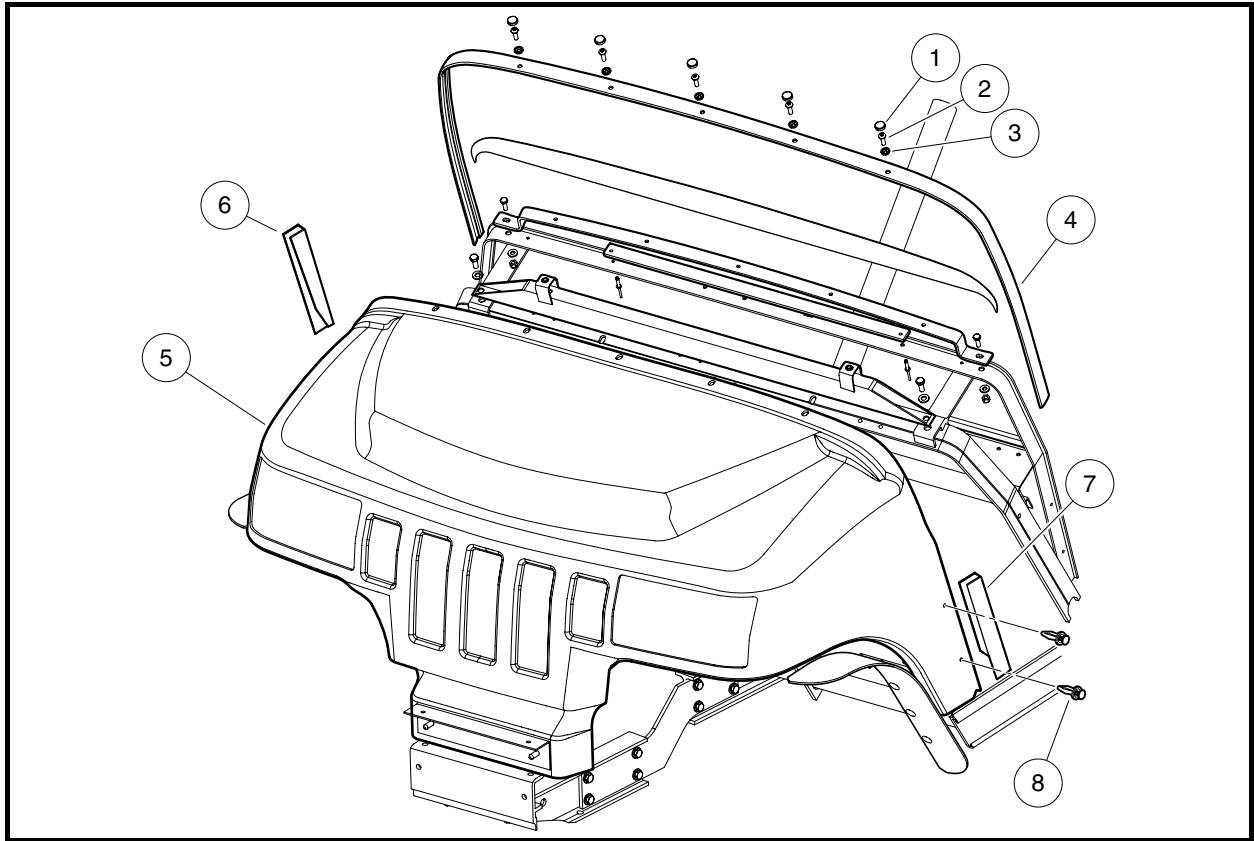

Figure 4-5 Front Body Assembly – 850
2. Remove caps (1) from screws (2) (**Figure 4-5, Page 4-8**).
3. Remove screws (2) and plastic scalloped washers (3) securing the dash trim strip (4) and front body (5).
4. Remove covers (6 and 7) and plastic rivets (8) from each side of front body.
1. Position front body (5) onto frame and connect wire harness to headlights.
2. Align front body (5) and dash trim strip (4) holes with holes in frame and install the five screws (2) and scalloped washers (3). Tighten to screws to 45 in-lb (5 N·m). Attach plastic caps (1) onto screws (2).
3. Secure each side of front body to frame with plastic rivets (8).
4. Install body covers (6) and (7) (**Figure 4-5, Page 4-8**).
5. Install plastic screws (5) on the sides of the dash and body.